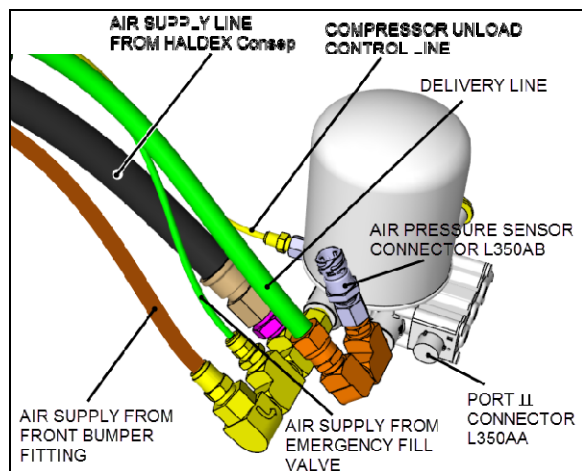

FIGURE 8: WABCO AIR DRYER CONNECTIONS
7. Unplug the air dryer electrical connector (L350AA, port II) (Figure 8).
17. Connect air lines and electrical connectors to new air dryer as previously installed (Figure 8).